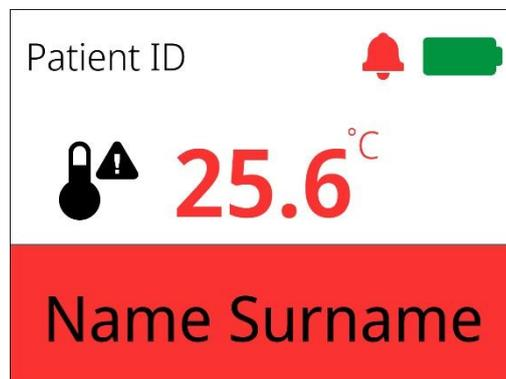

Figure 15.9 Low-temperature alarm indication on the undocked chamber's display
2. **Docked** – the entire display background is coloured in red (the docking station's display panel serves as the primary communicator in this scenario) (Figure 15.9).